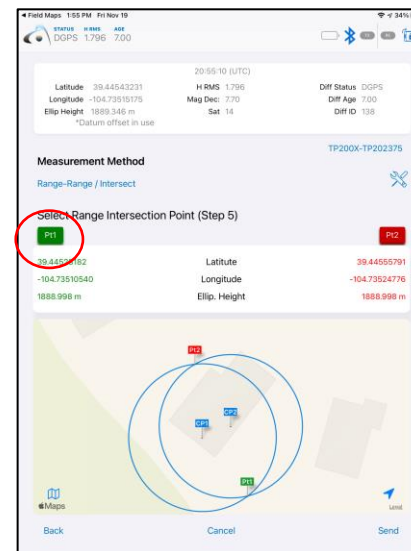

Figure 15A
- 15A. **Step #5:** Choose which solution is correct by tapping the corresponding **Pt1/Pt2** icon so it turns green (Figure 15A)